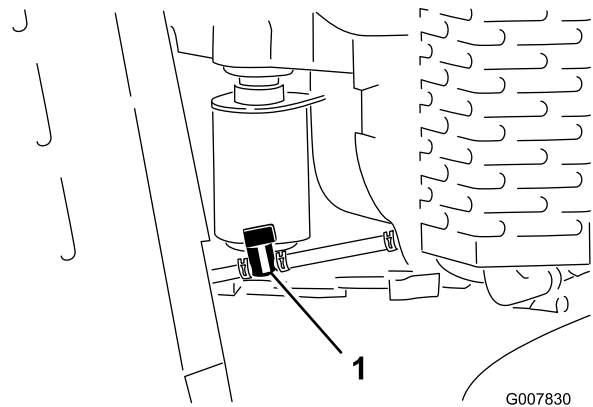

Figure 37
4. Turn the fuel shutoff valve to the closed position (Figure 37).
5. Squeeze the ends of the hose clamp on the engine side of the shutoff valve together and slide it up the fuel line away from valve (Figure 37).
6. Pull the fuel line off the valve (Figure 37).
- Turn the fuel shutoff valve to the closed position (Figure 37).
- Turn the fuel shutoff valve to the open position (Figure 37).